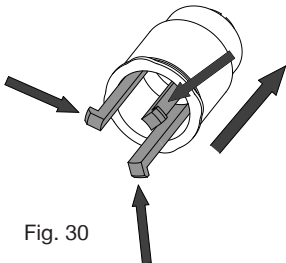

Fig. 30
- Completely remove magnetic float assembly pushing the three legs in and moving the assembly up (Fig. 30).